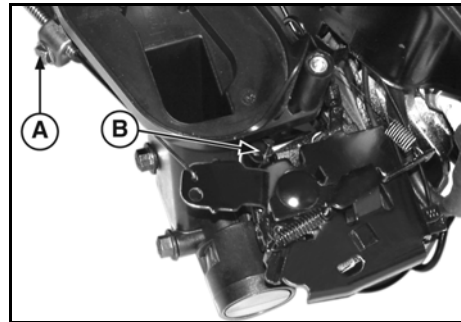

Figure 26
1. Loosen casing clamp screw (A, Figure 26).
3. Move casing in direction of arrow until casing stops moving and choke lever (B) moves to full choke position.